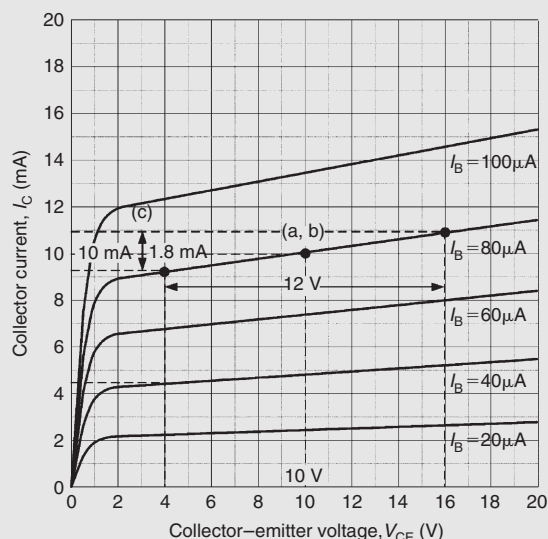

Figure 12.14
Problem 4. Fig. 12.14 shows the output characteristic for an n-p-n silicon transistor. When the collector-emitter voltage is 10 V and the base current is $80 \mu\text{A}$, determine (a) the value of collector current, (b) the static value of output resistance and (c) the dynamic value of output resistance.
- (a) From Fig. 12.14, when $V_{CE} = 10 \text{ V}$ and $I_B = 80 \mu\text{A}$, (i.e. point (a, b) on the graph), the **collector current, $I_C = 10 \text{ mA}$**